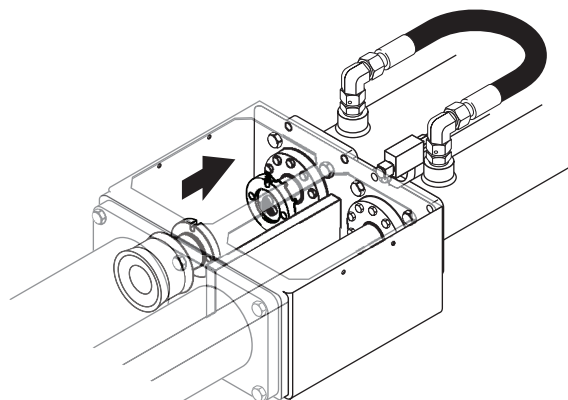

Figure 30
5. Restart the engine and clear all E-stops. Press the concrete pump forward or reverse button and ram change mode button simultaneously. Slowly retract the rod again (Figure 30), until there is room to install the spacer coupling.